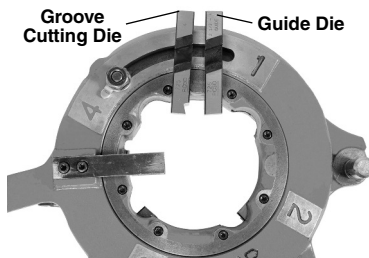

Figure 2 – Inserting Dies
3. Lift tongue of lever washer out of the slot and open the die head by moving the cam bolt in the direction of the largest size pipe on cam plate (Figure 2).
5. Insert groove cutting die (marked "4") into the number 4 die head slot. Guide dies are not marked and are used in the 1, 2 and 3 die head slots. Insert numbered edge/notch facing up until the indicator line on die is flush with the edge of the die head (Figure 2).